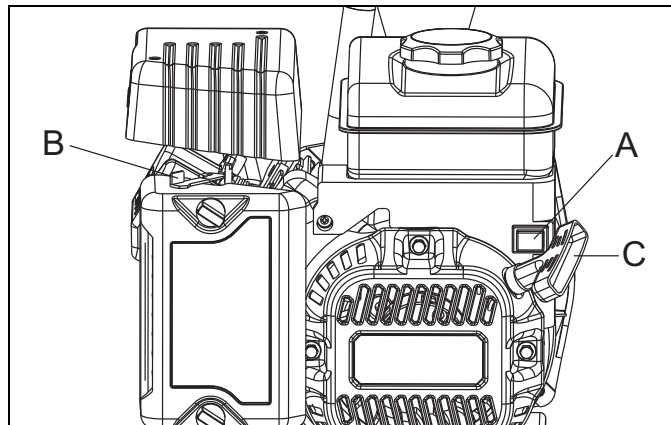

Figure 5-3. Start the CW15 Water Pump
1. Flip engine switch (A) to the ON position (Figure 5-3).
2. Move choke lever (B) to CHOKE position.
3. Secure unit from movement when pulling starter handle (C).